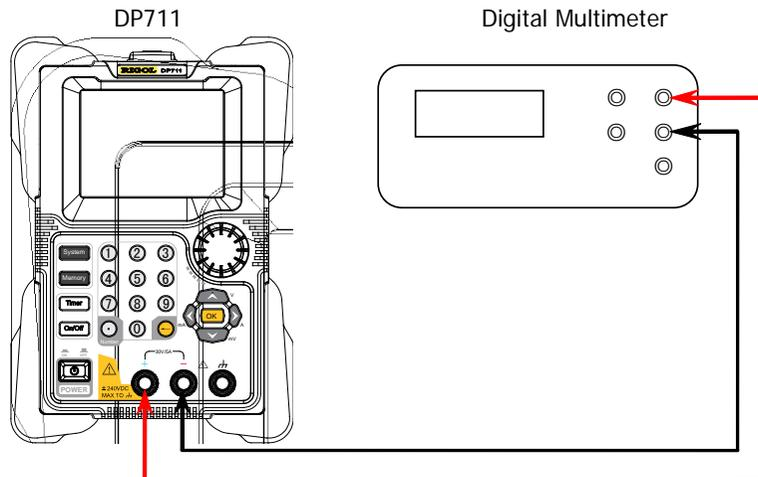

Figure 2-5 Connect DP711 and Digital Multimeter (Voltage)
- (1) Ensure that DP711 has been warmed up for at least 30 minutes. Use the test probe to connect the output terminals of DP711 to the voltage input terminals of the digital multimeter, as shown in Figure 2-5.
- (2) Press **On/Off** on the front panel of DP711 to turn on the channel output.
- (3) Turn on the digital multimeter. Select the DC voltage (DCV) measurement function and set the range to "Auto".
- (4) Enter the DP711 calibration page, and select "V ADC", then press the Right arrow key. The cursor switches to ID of the first calibration point.
- (5) Press **OK**. The Meas value (measurement value) of the selected calibration point is highlighted and editable. Then, use the num key or the knob to enter the measurement value of the digital multimeter.
- (6) Press **OK**, and the measurement value will be written into the system. Thus, you have completed the calibration for the selected calibration point.
- (7) Select the rest of the calibration points according to the ID sequence, then repeat Step (5) and (6) until you complete the calibration operation for all the calibration points.
- (8) Press the Down arrow key or use the knob to switch the parameter focus to "Save", then, press **OK** to save the current calibration data. Till now, you have completed the voltage ADC calibration.